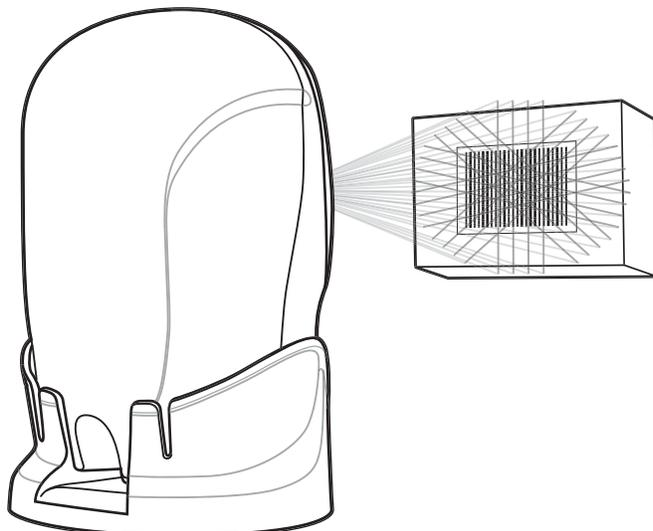
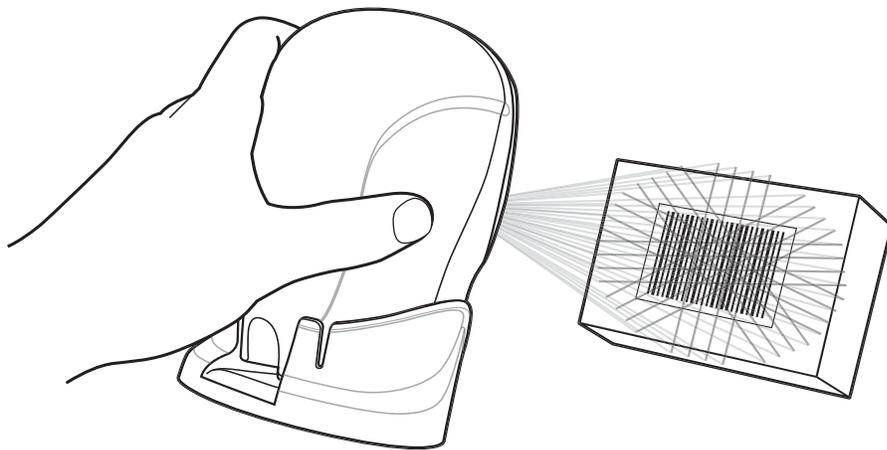

Figure 2-2 *Hands-Free Mode*
Figure 2-3 *Hand-Held Mode*
3. To scan a bar code, present the bar code and ensure the scan lines cross every bar and space of the symbol. See Figure 2-2 on page 2-2 for scanning in hands-free mode and Figure 2-3 on page 2-3 for scanning in hand-held mode.